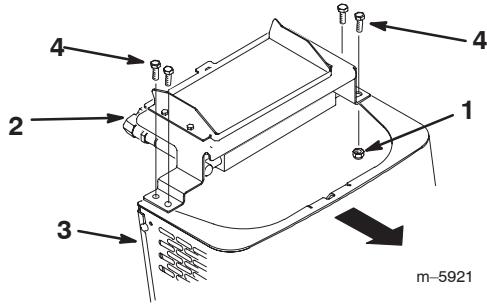

Figure 24
6. Remove the shoulder bolts and nuts securing the oil cooler to the top of the front screen (Fig. 24).